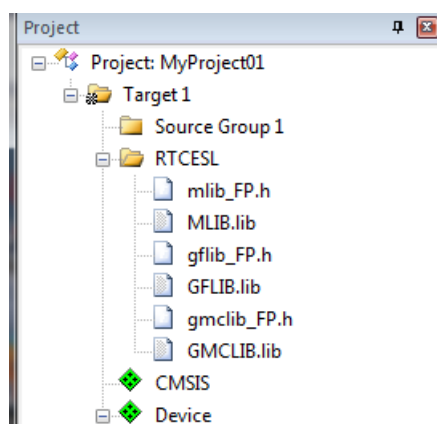

Figure 1-31. Project workspace
10. Now, all necessary files are in the project tree; see Figure 1-31. Click Close.